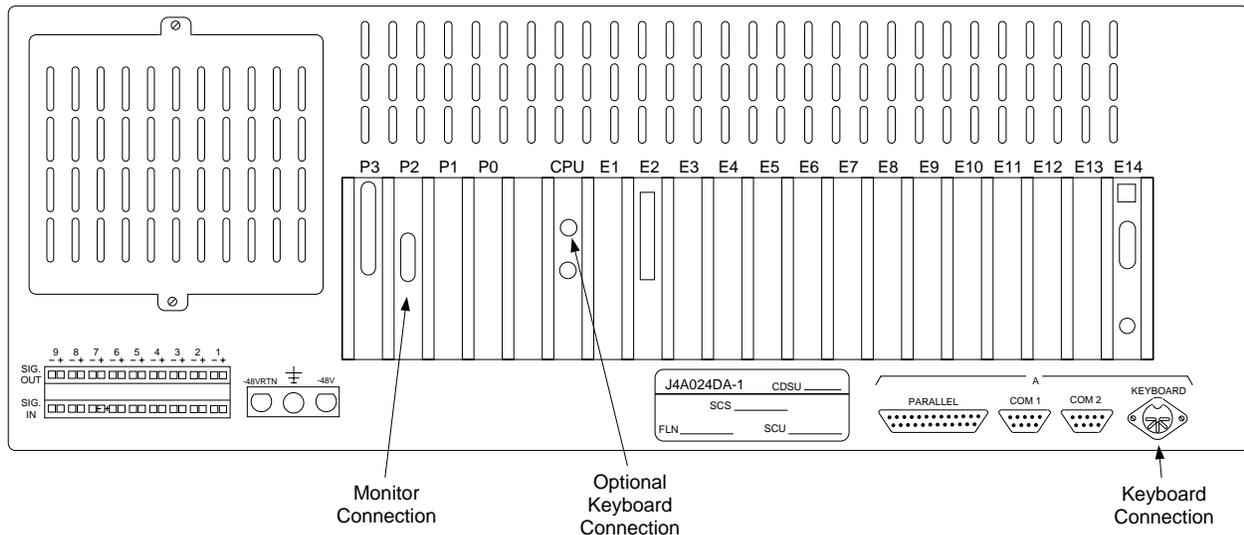

Figure 1. CDSU-II Monitor and Keyboard Connections
2. At the rear of the CDSU-II, connect the monitor cable to the connector at location P2 (see Figure 1).